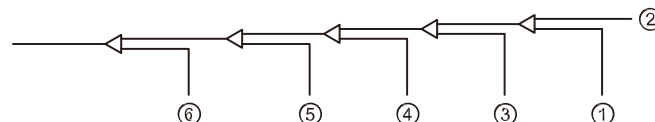

Fig. 50 – Flushing Sequence
8. Flush the other openings in the same manner, working in sequence from indoor unit A towards the outdoor units. Refer to Fig. 50.